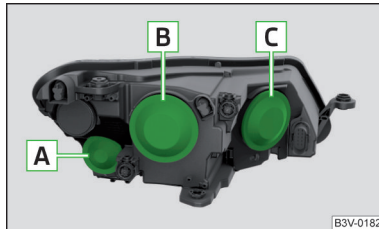

Fig. 362
Bulb arrangement » Fig. 362
- › Remove the protective cap **A** » Fig. 362 on page 301.
- › Fit the protective cap **A** » Fig. 362 on page 301.
- › Remove the protective caps **B** and **C** » Fig. 362 on page 301.
- › Use the protective caps **B** and **C** » Fig. 362 on page 301.